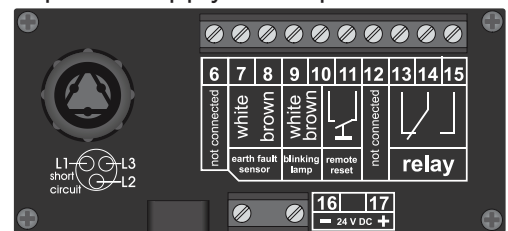

figure 1 - Connectors one relay version
- Connector 13- 15: SCADA change-over contact (please refer to figure 1)